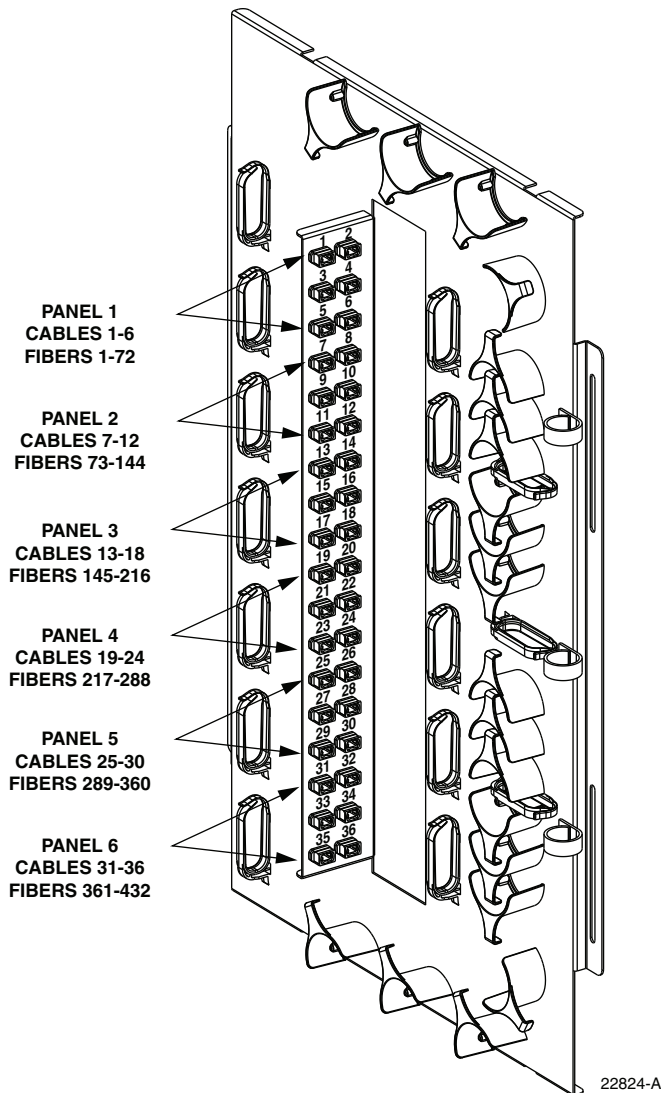

Figure 51. Layout of Bulkhead Adapter Panel
10. Locate the adapters on the bulkhead adapter panel that correspond to the distribution panel to which the distribution cables will be connected. The layout of the adapter panel is shown in Figure 51.